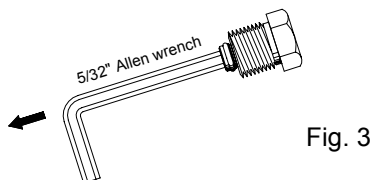

Fig. 3
- Located inside the 9/16" return plug is the 5/32" by-pass plug. Remove it with an Allen wrench (Fig.3).